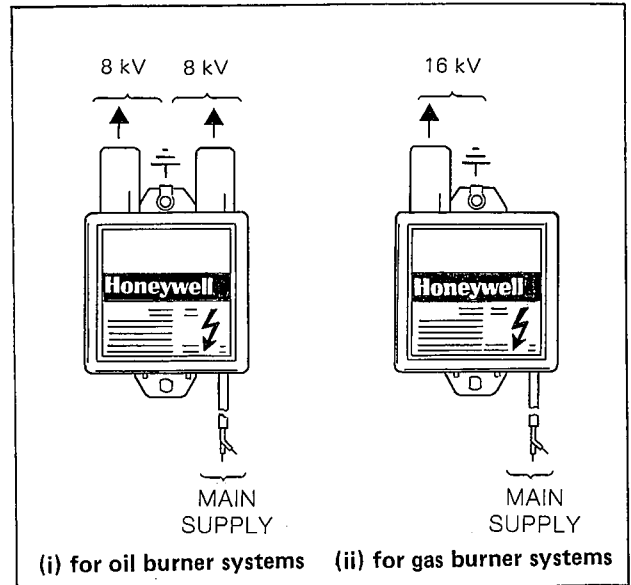

Fig. 2 Connection Diagrams
2. The earth connection between the S720A and burner body is a secure one. The earth terminal is brought out to one of the mounting holes (see fig. 2).